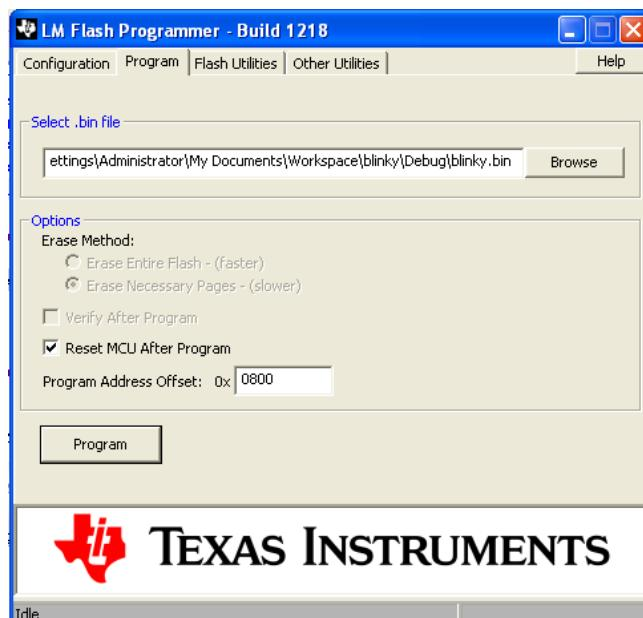

Figure 11.25 LM Flash Programmer (Program Tab)
- Choose the same options as shown in Figure 11.25 with the same parameters. Make sure the address offset is 0800.